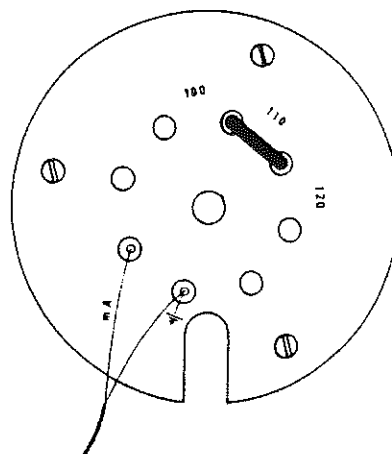

Fig. 4.4
- 12) Connect a DC MA meter to terminal MA and  $\perp$  (fig 4.4)